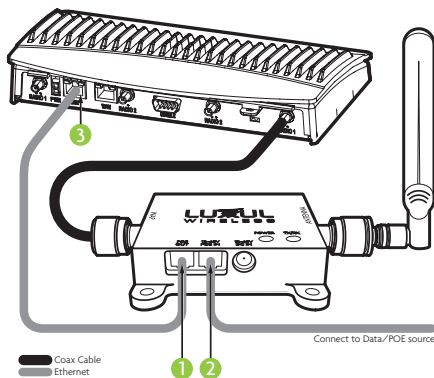

Figure 4
Connect the included 36" (914.4mm) Ethernet cable to the Signal Booster "POE OUT" port (Figure 4) ①. Connect the other end to the LAN port on the back of your Motorola AP-5131, (Figure 4) ③. Connect your Data/POE source Ethernet cable to the "12-48V POE IN" port of the Signal Booster, (Figure 4) ②. Connect the power cable to the Motorola AP-PSBIAS-1P2-AFR POE injector. Plug the POE injector power supply into your 100-240V compatible power source.